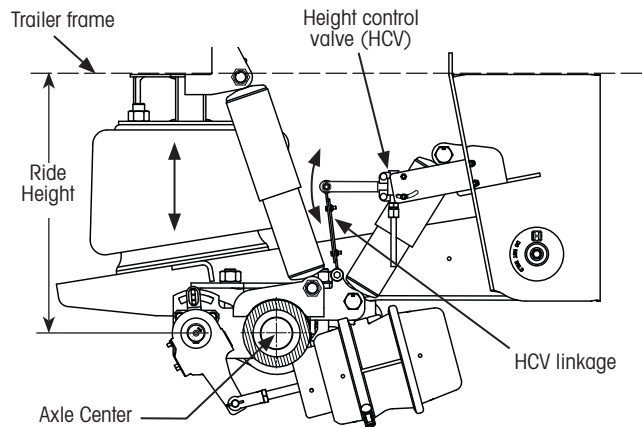

Figure 25: Ride Height & Height Control Valve (HCV)
Ride Height (RH) is defined as the distance from the frame bracket mounting to the trailer frame to the center of the axle (Figure 25). It is controlled by the Height Control Valve (HCV) and, once set, should not be modified. Air spring, shock and frame brackets sizes are selected and assembled to the suspension beam based on the desired ride height.
A suspension's designed ride height is defined as the distance from the suspension mounting surface (the bottom of the trailer or slider box) to the center of the axle (Figure 25).
Read the designed ride height from the model line or the description line of the ID tag. If you cannot determine the ride height from the information on the identification tag, measure as shown in Figure 25 and Figure 30 or CONTACT HENDRICKSON technical services.